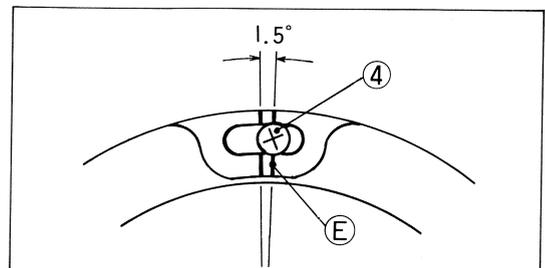

Fig. 20
**CAUTION:** The above procedure applies to those TS185A machines supplied to other markets than U.S.A. and Canada. TS185A machines supplied to these two excluded markets have the lighting switch locked in "ON" position; in these machines, index line ⑤ to be centered to screw ④ is the right one of the two, as shown in Fig. 20.